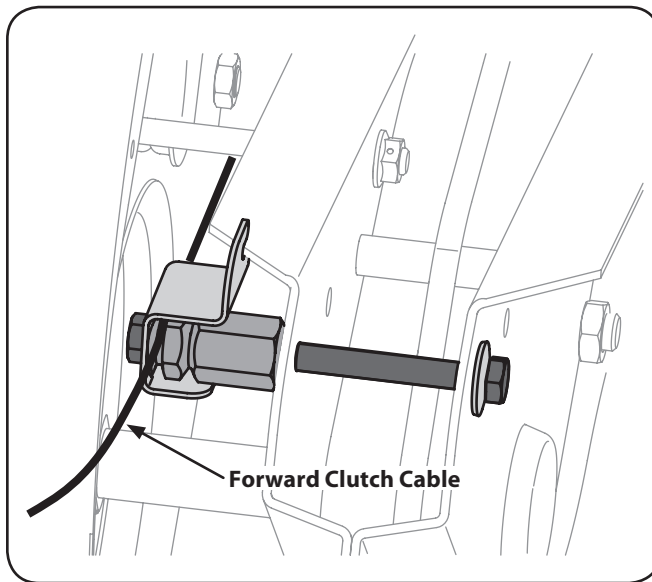

Figure 3-1
1. Identify the forward clutch cable. Figure 3-1.